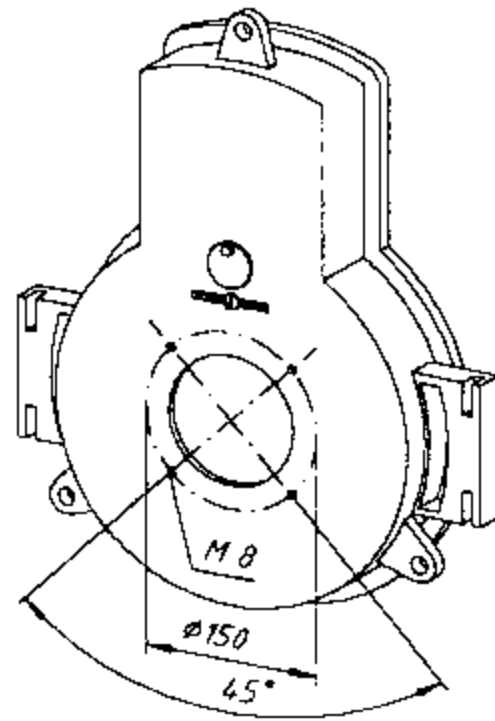

Fig. 13: Dimensions for burner installation
- Burner connecting dimensions as given in DIN 4789 for oil pressure jet and blown gas burners (Fig. 13)